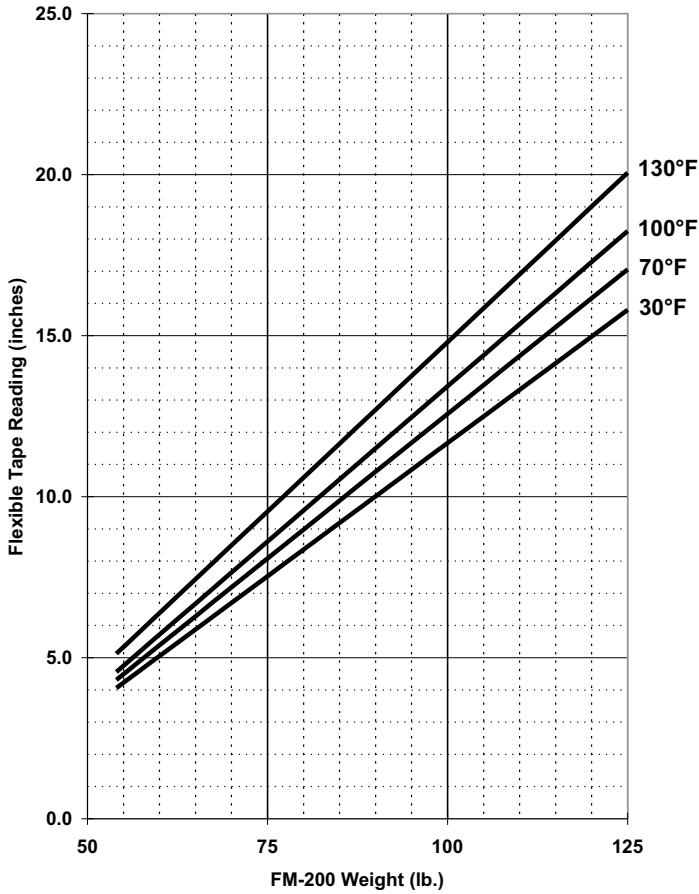

Figure 5-2. Calibration Chart 125# Cylinder
7. Refer to the appropriate calibration charts (see Figures 5-2 through 5-7) and locate the level reading on the vertical axis (labeled Flexible Tape Reading). Trace horizontally to the right to the appropriate temperature line. Read the weight of FM-200 from the scale at the bottom of the chart. Record the weight and date on the record tag attached to the cylinder.